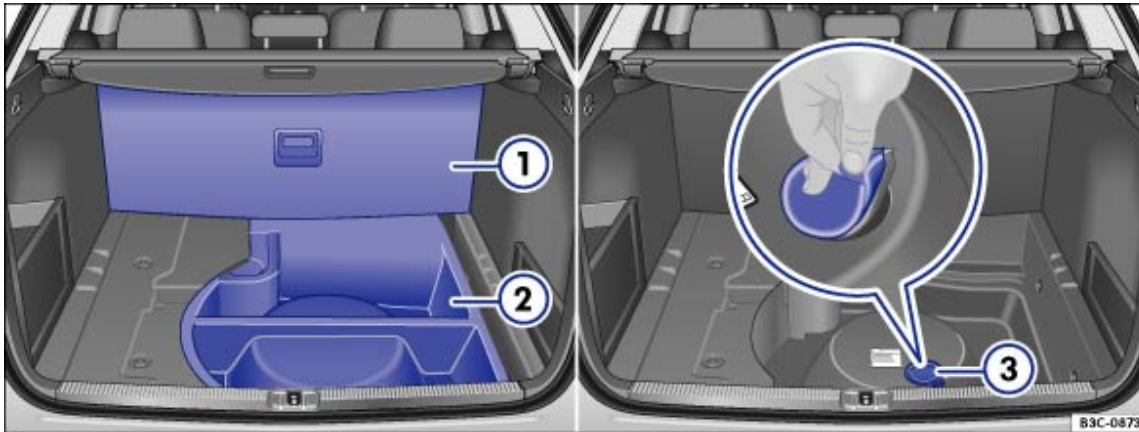

Fig. 190 Luggage compartment with foam rubber component and AdBlue tank
- Lift up or push back the floor covering → Fig. 190 ① .
- Remove the foam rubber component → Fig. 190 ② .
- Remove the stopper → Fig. 190 ③ from the AdBlue tank.
- Carefully replace the stopper → Fig. 190 ③ .